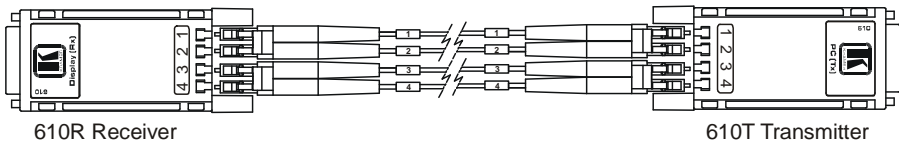

Figure 2: Connecting the Fiber Optic Cables
5. Connect the duplex LC fiber cables² to the **610T** and **610R** modules, one cable at a time, as illustrated in Figure 2.